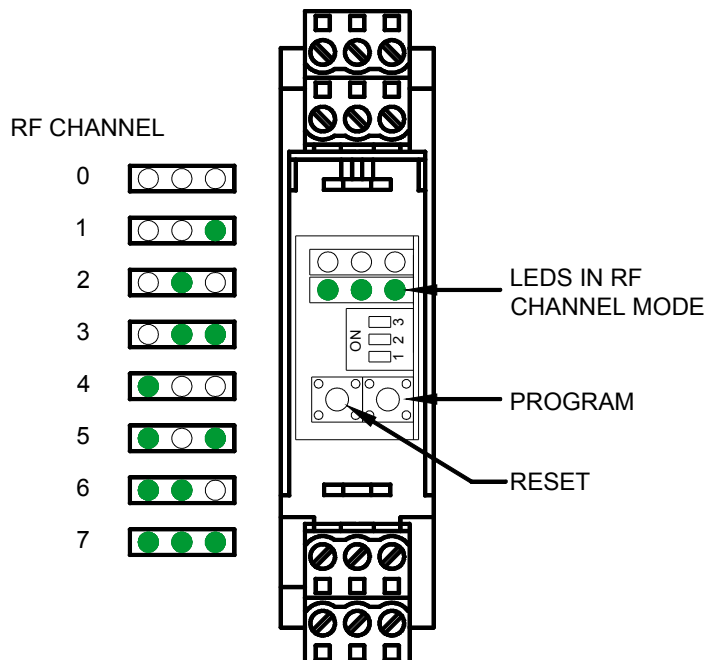

Figure 4 RF channel setting.
**Mode 3: RF Channel Select (b011):** set mode switches for mode 3, press and release the reset switch. There are 8 RF channels available, 0-7. The present RF channel will be displayed, see figure 4. To return to normal mode return all switches to b000 or to change RF, channels press the program switch and the next incremented channel will be displayed. Each subsequent press of the program switch increments the RF channel, channels will wrap around from 7 to 0. When the desired channel is selected, press and hold the program switch (approximately 4 seconds) until the power LED blinks twice to indicate value has been stored. Programming is complete, return all switches to b000,